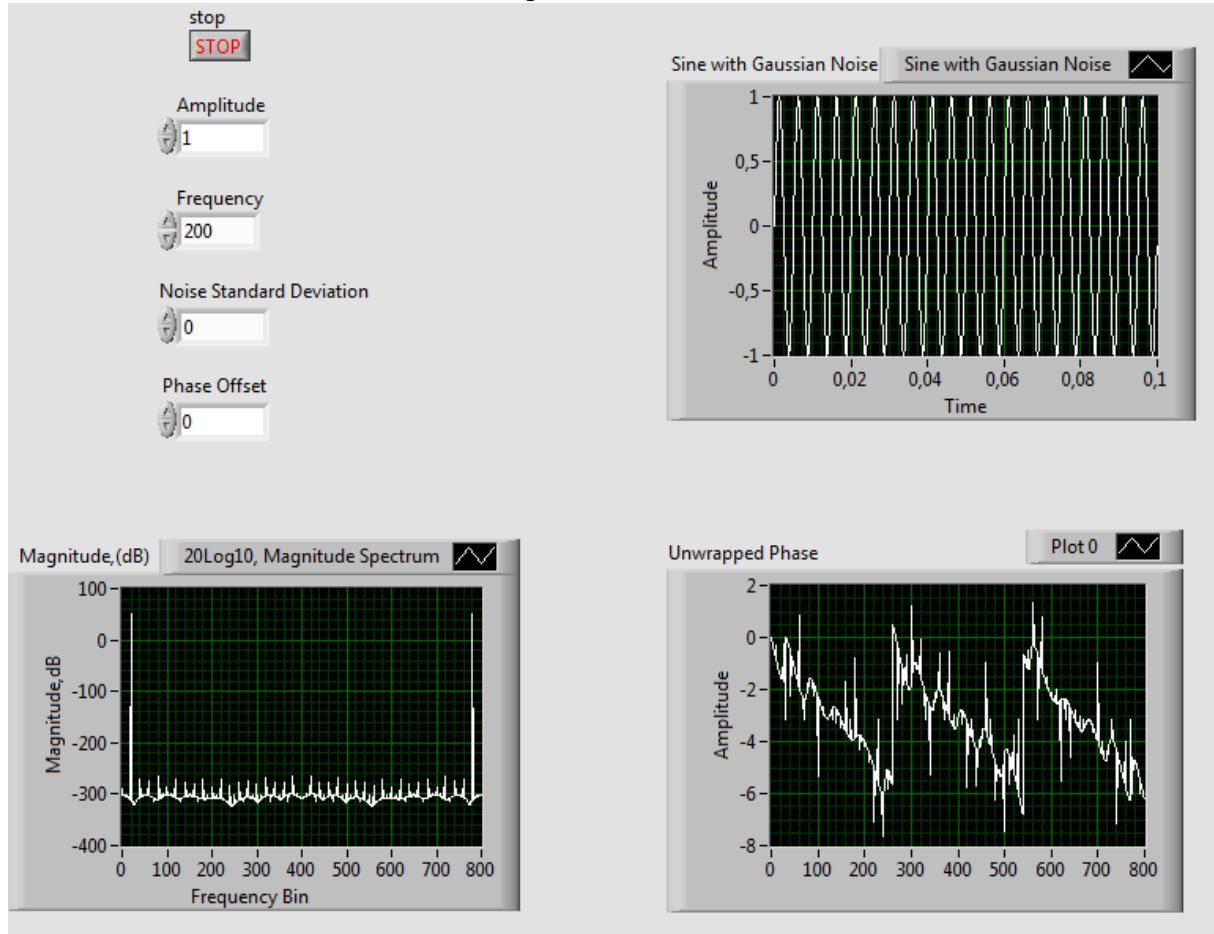

Fig. 14. Front Panel of the Run_Sine.vi
The Front Panel for this VI is shown in Fig. 14.
- Take the **Noise Standard Deviation** as **0** and the remaining parameters as shown in Fig. 14. Explain the Magnitude and Phase plot axis. The input sinusoid is **200Hz** and the sampling rate for the Simulate Signal block is **8kHz**. Identify the frequency bin corresponding to the input frequency in magnitude spectrum. You can **right click on any waveform** and select **Export → Export Data To Excel** to access the x- and y-axis values.
to be a single line as in Fig. 14? Note that there is no noise component in the sine in this step.